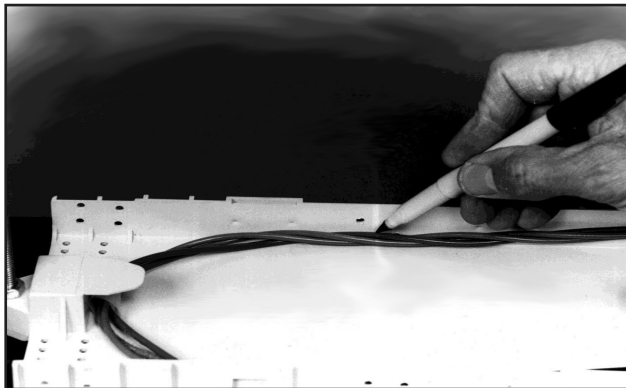
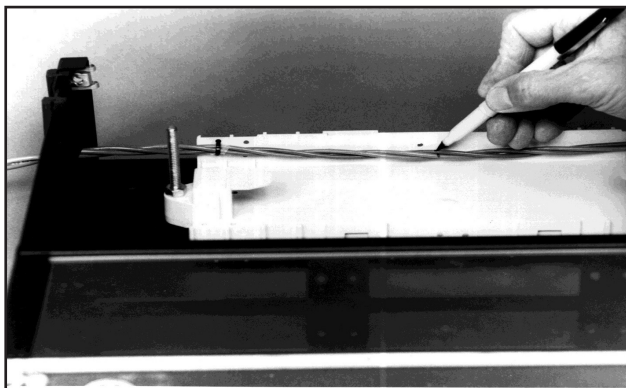

FIGURE 2A- MARK THE FIBER FOR BOTTOM CABLE ENTRY
FIGURE 2B- MARK THE FIBERS FOR BOTTOM CABLE ENTRY
- 6.05** Mark the fibers at the back wall centerline of the Transition Assembly as shown in Figure 2A. (and Figure 2B)